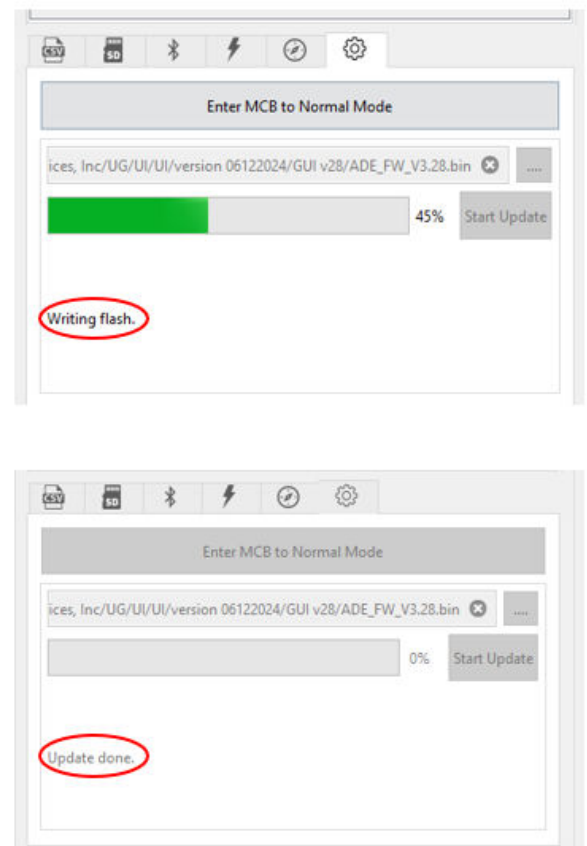

Figure 36. Firmware Updating
4. Click **Start Update** to initiate the firmware update process. Figure 36 shows the updating process (top image) and completion status (bottom image).